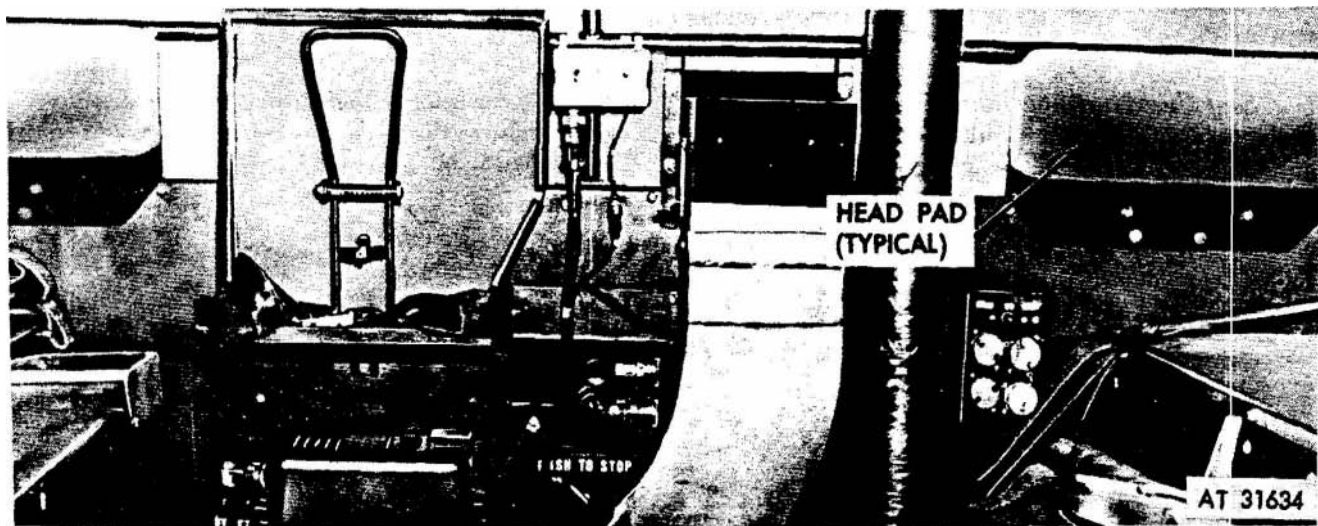

Figure 1-16. M792 ambulance, protective head pads.
i. Head Pads. Two head pads (fig 1-16) are mounted on the forward carrier bulkhead and rail to prevent patient head injuries in the event of sudden stops or lurching of the carrier.